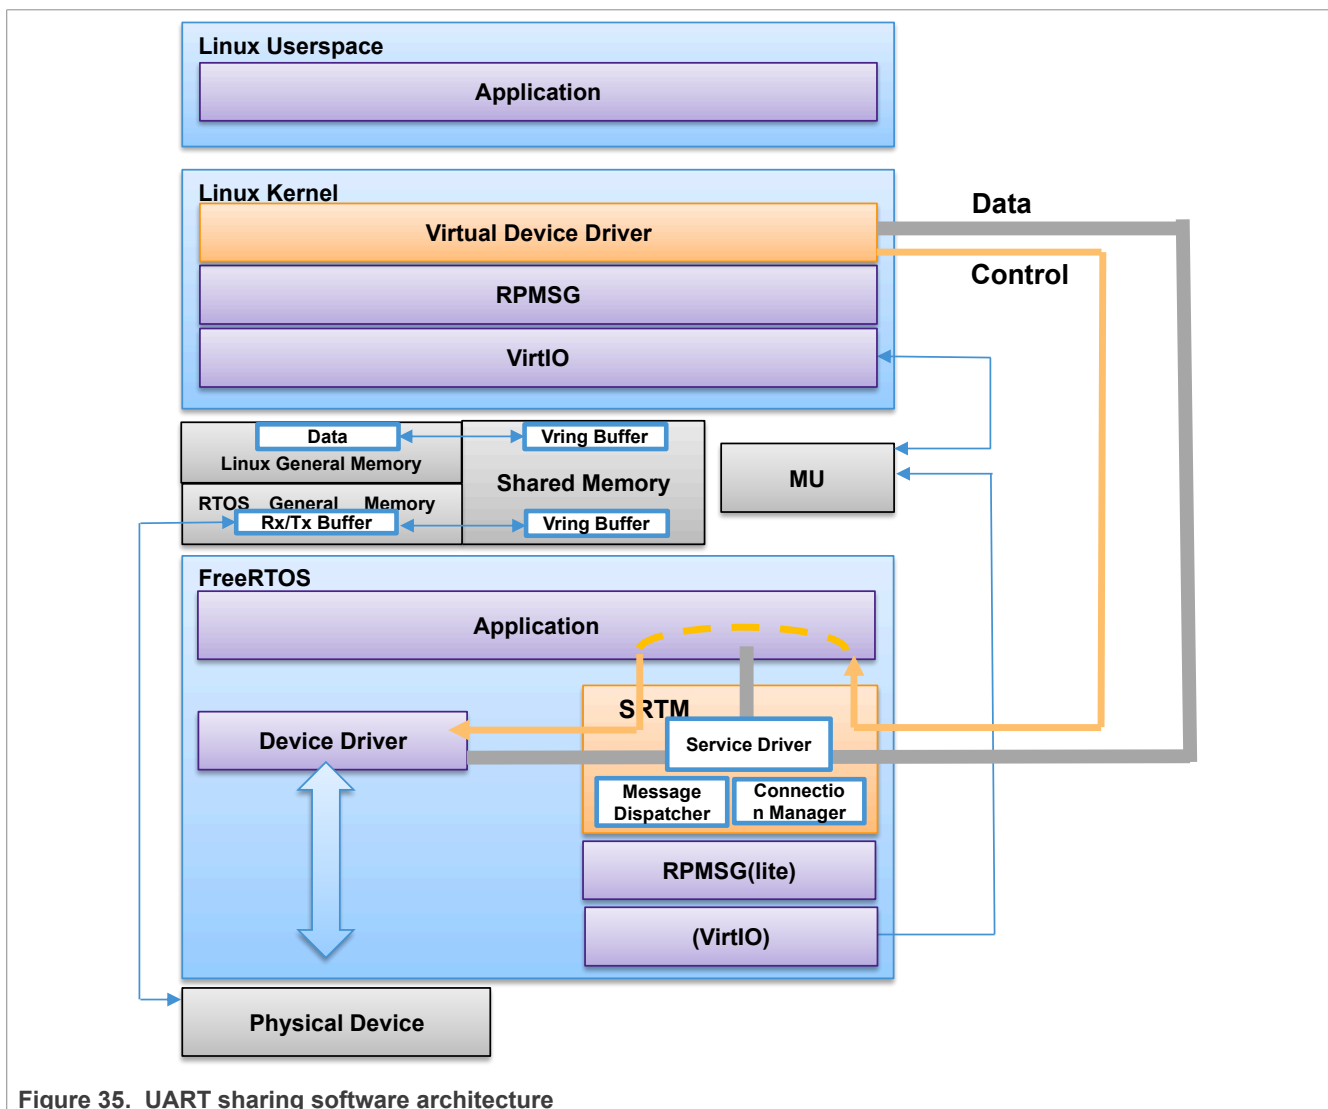

Figure 35. UART sharing software architecture
Figure 35 illustrates the software architecture of a UART sharing design.
- The “Address” field is reused by receive from transmit directions. For the receive direction (blue colored path in Figure 35), it is the destination address or ID of target virtual device. For the transmit direction (orange colored path in Figure 35), it is the source address or ID from which virtual device is transmitted.